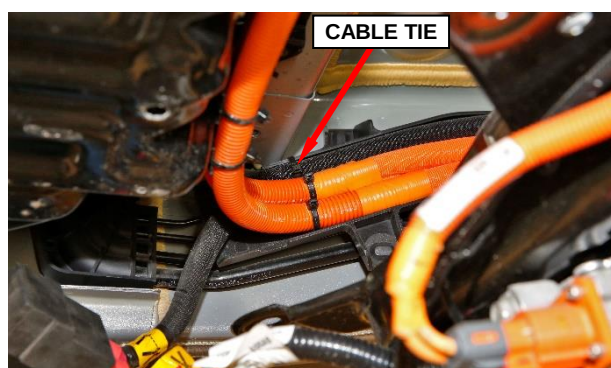

Figure 36 – 12-Volt Cable
22. Cut the cable tie retaining the 12-volt cable to the cable carrier. It is not necessary to replace this cable tie during reassembly (Figure 36).